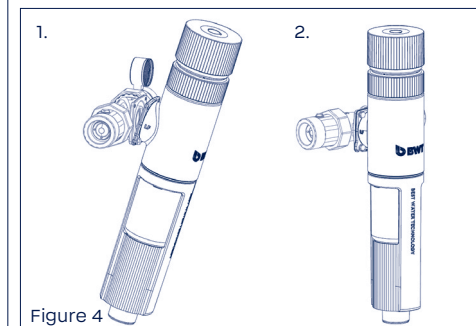

Figure 4
7. Ensure the seal is correctly seated. The four ribs must be inserted into the filter head, and the seal must be fully seated in the two grooves, see Figure 4. Tighten the screws evenly in a cross pattern.